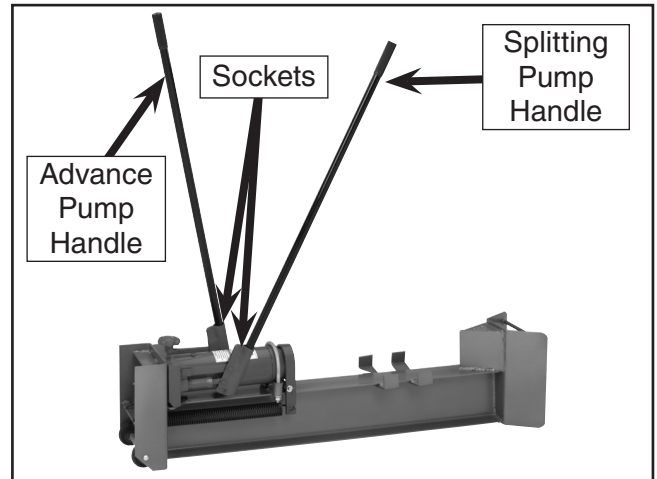

Figure 1. Model H6239 handles installed.
The Model H6239 10 Ton Log Splitter (**Figure 1**) features 10 tons of pressure for splitting firewood, a 17⁵/₈" log capacity, an 8¹/₄" ram stroke, and two built-in mini wheels for easy mobility.
Insert a handle into each socket (**Figure 1**).
4. Use the advance pump handle (**Figure 1**) to quickly move the piston rod until it is close to the log. Then use the splitting pump handle (**Figure 1**) to split the log.